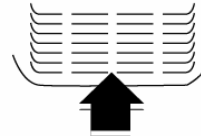

FIGURE 1
- POSITION UNIT TO ALLOW FREE AIR FLOW THROUGH THE FRONT GRILLE (SEE FIGURE 1). WIPE THE INSIDE OF UNIT AND ICE BUCKET WITH A DAMP CLOTH.